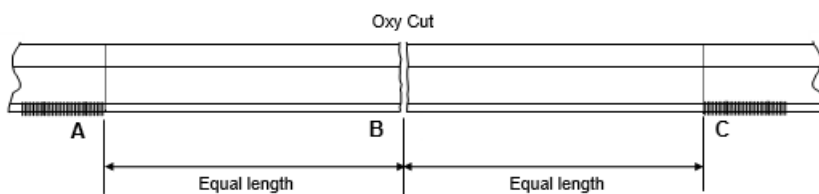

Figure 13 - Anchor Points for CWR
24. Establish anchor points at each end of the section being measured. (See Figure 13).